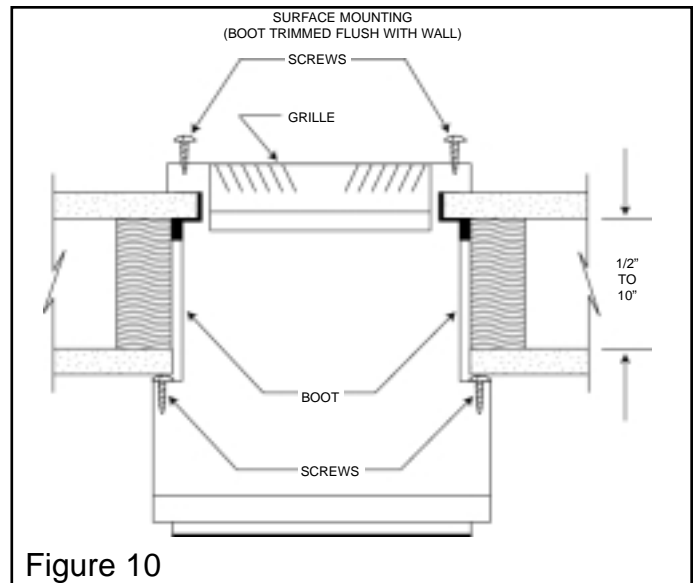

Figure 10
6. With a 1/8 inch drill bit, drill (2) holes through plaster or drywall and the cabinet for attaching grille.
7. Attach the grille with screws provided (Fig.10). The 10 inch boot is not required for recessed installation.
12. Attach grille with screws provided (Fig. 10).